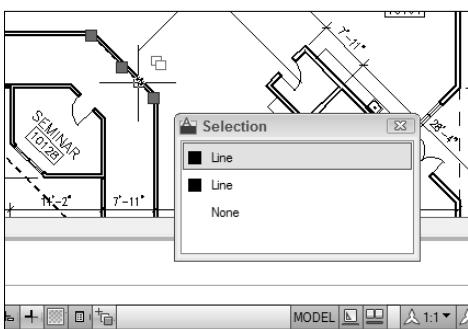

Figure 2-7:
Selection Cycling (SC): It's remarkably easy in AutoCAD to draw objects on top of other objects and not be able to tell you've done so. When the new Selection Cycling is enabled, an icon showing two overlapping rectangles appears beside the crosshairs if AutoCAD finds more than one object under them. If you then click to select, a Selection window pops up showing you how many objects, and of what type, are under the point that you picked (see Figure 2-7).